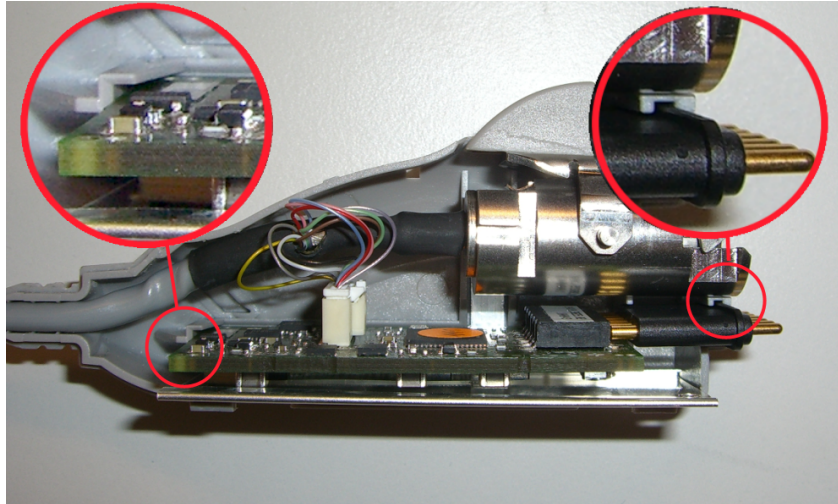

Figure 3-16: Assembling the probe box
1. Insert the probe board with the pogo pin connector as shown in Figure 3-16.